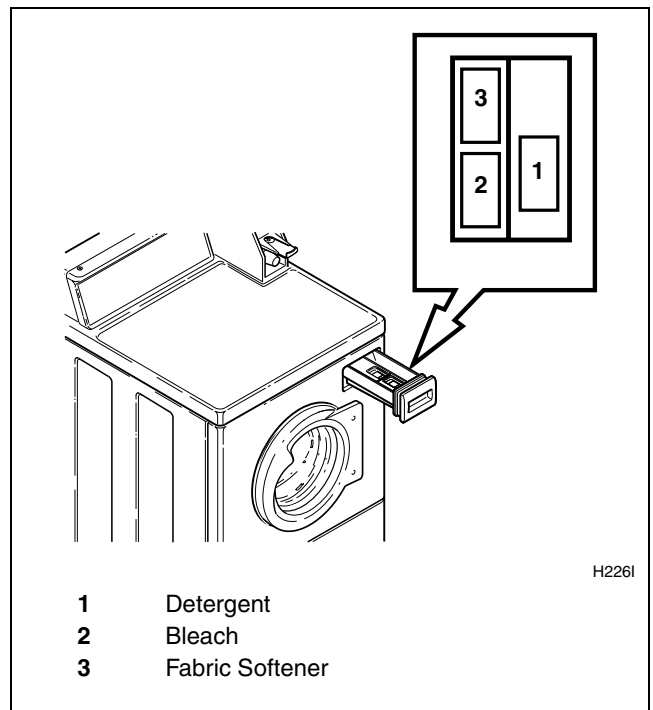

Figure 18
Open dispenser drawer. Measure and add low sudsing detergent (1), bleach (2) and fabric softener (3) to the dispenser drawer (refer to *Figure 18*). Close dispenser drawer.